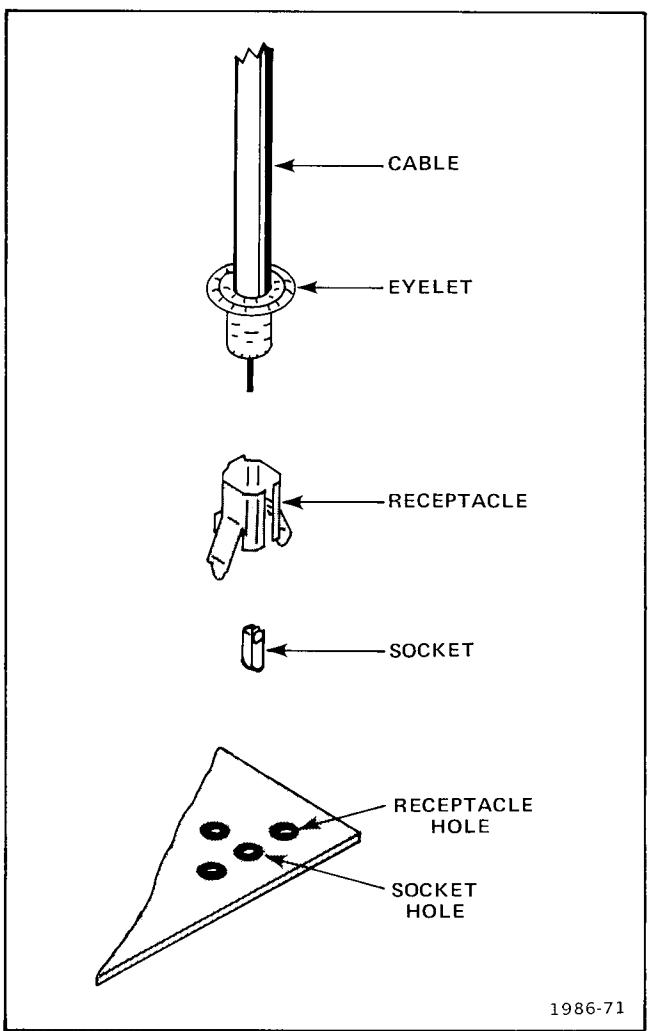

Fig. 5-7. Coaxial end-lead connector assembly.
**Coaxial End-Lead Connectors.** Replacement of coaxial end-lead connectors requires special tools. Repair is best made by replacing the cable as a unit. Refer to the replaceable parts list in the back of the manual for part numbers. Fig. 5-7 shows an exploded view of a coaxial end-lead connector assembly.